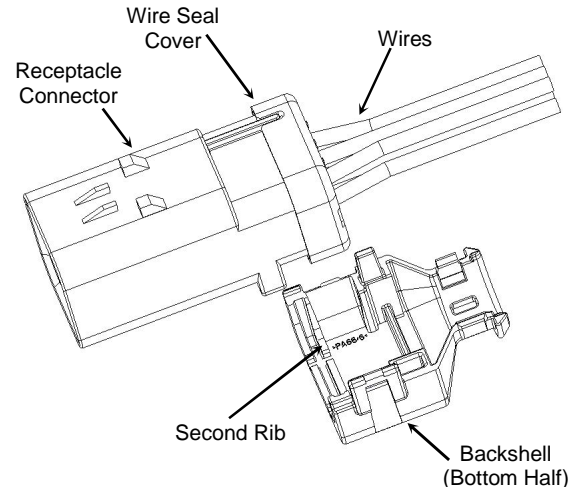

Figure 2
3. Align the plug or receptacle connector and the bottom half of the backshell as shown in Figure 2.